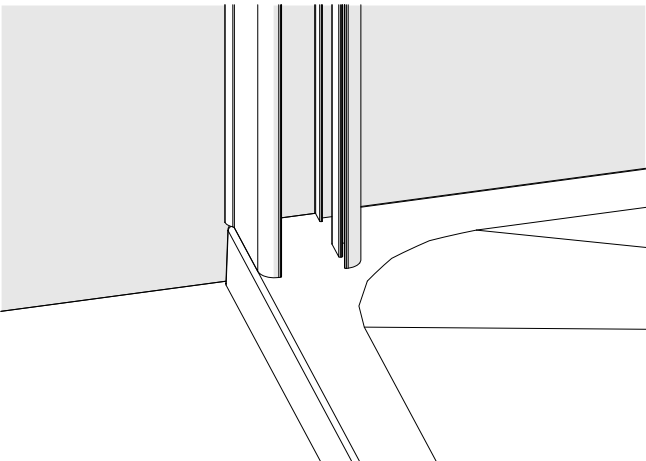

Fig. 1.1
- For shower trays, position the wall comps on the flat area around the tray's edge. Avoid installing them over the tray's edge as this may cause leakage. *Figure 1.1*